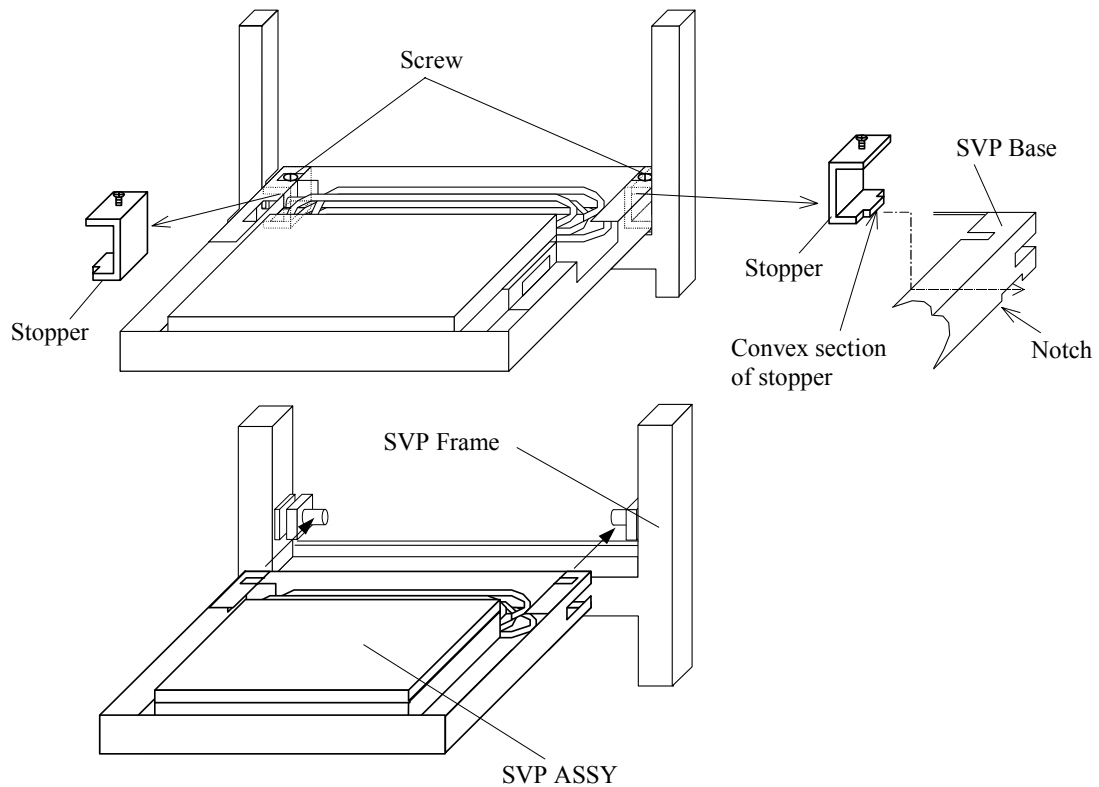

Fig. T7.1-12 Removing and installing the SVP Assy
- Install the SVP Assy to the SVP frame and attach the stoppers with screws. At the time, confirm that the convex sections of the stoppers are inserted into the notches of the SVP base. (See Fig. T7.1-12.)
7. Loosen the screws and remove the stopper. (See Fig. T7.1-12 [REP03-530].)
8. Pull out the defective SVP ASSY. (See Fig. T7.1-12 [REP03-530].)